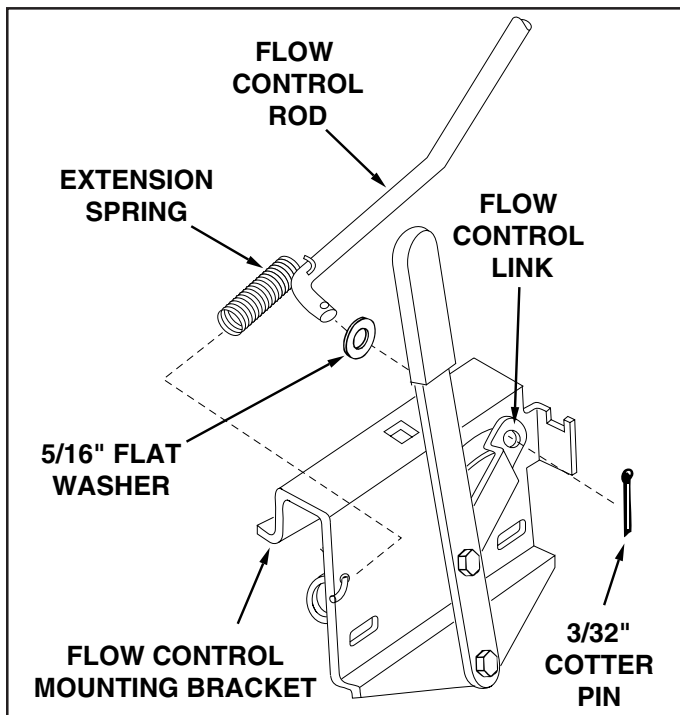

FIGURE 11
19. Place a 5/16" flat washer over the end of flow control rod, and insert end of rod through slot in flow control mount bracket and through the hole in flow control link. Secure with a 3/32" x 3/4" cotter pin. See figure 11.